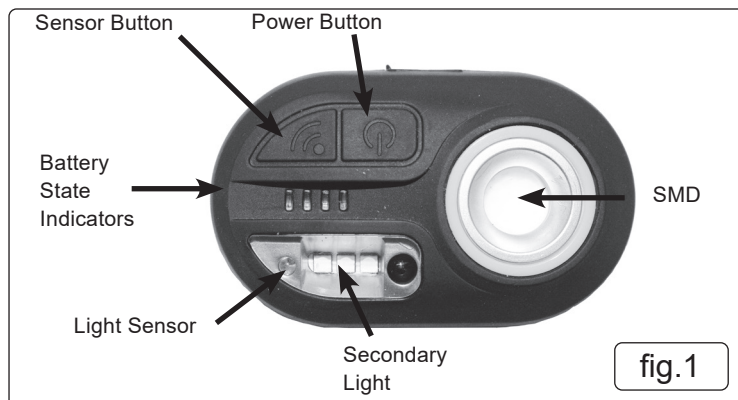

fig.1
- 4.1.1. Press power button (fig.1) once to turn unit on.
- 4.1.2. The battery charge state is indicated by the 4 blue LEDs (fig.1).
- 4.1.3. Press power button again to light the primary light (fig.1).
- 4.1.4. Press power button again to also light the secondary light (fig.1).
- 4.2.1. Press the sensor button (fig.1) to enable sensing.
- 4.2.4. Press the sensor button (fig.1) to disable sensing.